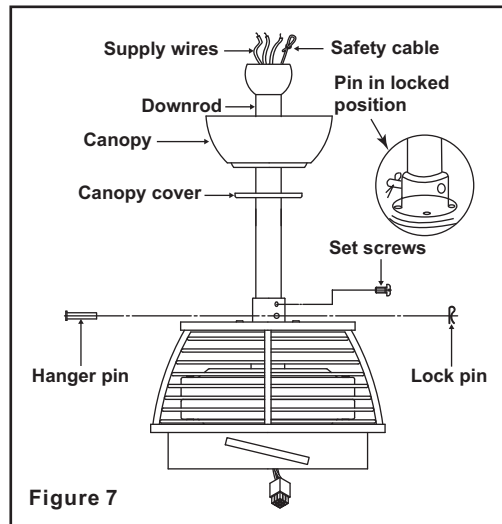

Figure 7
Step 5. Remove the hanger pin, lock pin and set screws from the top of the motor assembly. (Fig. 7)
Step 6. Route the safety cable and wires exiting from the top of the fan motor through the canopy cover and canopy, and then through the ball / downrod. (Fig. 7)
the motor housing (Fig. 7). Carefully insert the hanger pin through the holes in the collar and downrod. Be careful not to jam the pin against the wiring inside the downrod. Insert the locking pin through the hole near the end of the hanger pin until it snaps into its locked position, as noted in the circle inset of Fig. 7.
Step 8. Tighten two set screws on top of the fan motor firmly. (Fig. 7)